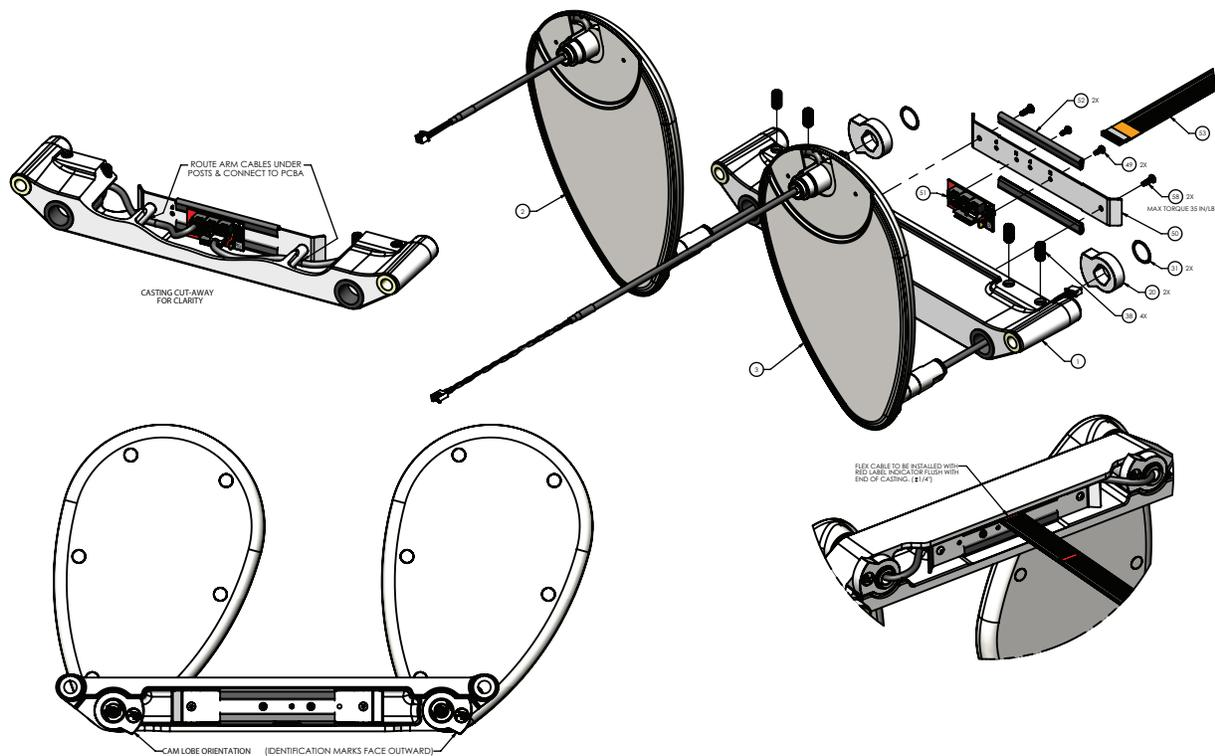

Figure 38 – Siderail replacement, head end
9. Using a T15 Torx driver, remove the two screws (22) that secure the junction board assembly (51) to the siderail carrier (1) (Figure 38). Remove the junction board assembly.